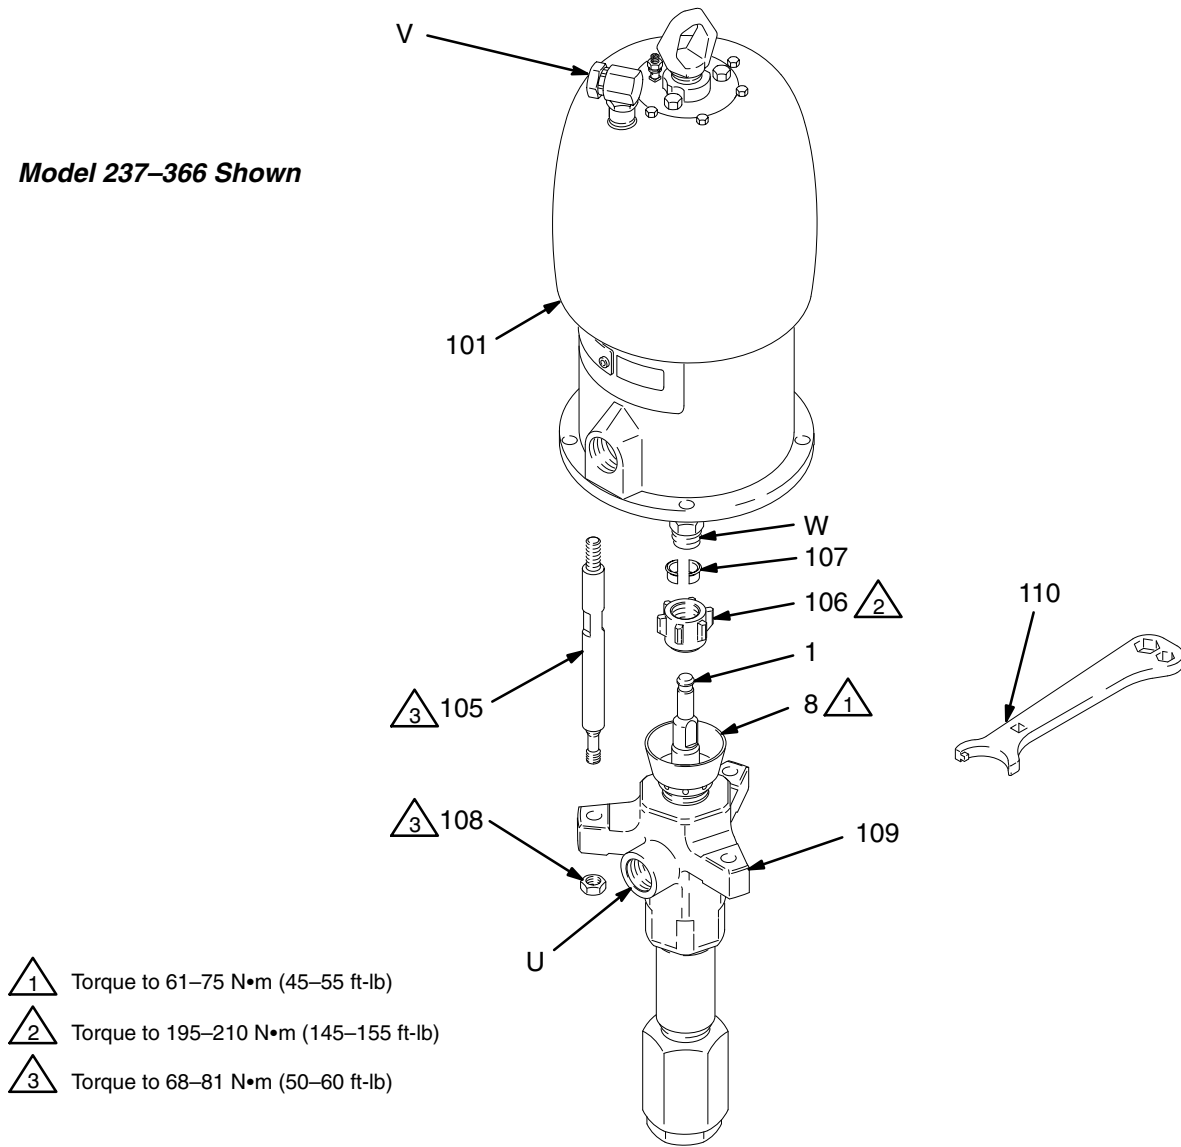

Fig. 4
5. Using an adjustable wrench (or hammer and punch), unscrew the coupling nut (106) from the motor shaft (W). Do not lose or drop the coupling collars (107). See Fig. 4.
**NOTE:** On Model 237–370, disconnect the riser tube (113) at either the elbow (112) or the connector (114). See the Parts Drawing on page 23.
6. Hold the tie rod flats with a wrench to keep the rods from turning. Unscrew the nuts (108) from the tie rods (105). Carefully remove the displacement pump (109) from the motor (101).
1. Make sure the coupling nut (106) and the coupling collars (107) are in place on the displacement rod (1). See Fig. 4.
2. Have one person hold the displacement pump while another reconnects it to the motor (see the **CAUTION** at left). Orient the pump's fluid outlet (U) to the air inlet (V) as was noted in step 4 under **Disconnecting the Displacement Pump**. Position the displacement pump (109) on the tie rods (105).
**NOTE:** On Model 237–370, reconnect the riser tube (113) at either the elbow (112) or the connector (114).
3. Screw the nuts (108) onto the tie rods (105) and torque to 68–81 N•m (50–60 ft-lb).
4. Screw the coupling nut onto the motor shaft (W) loosely. Hold the motor shaft flats with a wrench to keep it from turning. Use an adjustable wrench to tighten the coupling nut. Torque to 195–210 N•m (145–155 ft-lb).
5. Reconnect all hoses. Reconnect the ground wire if it was disconnected. Fill the packing nut (8) 1/3 full of Graco Throat Seal Liquid or compatible solvent.